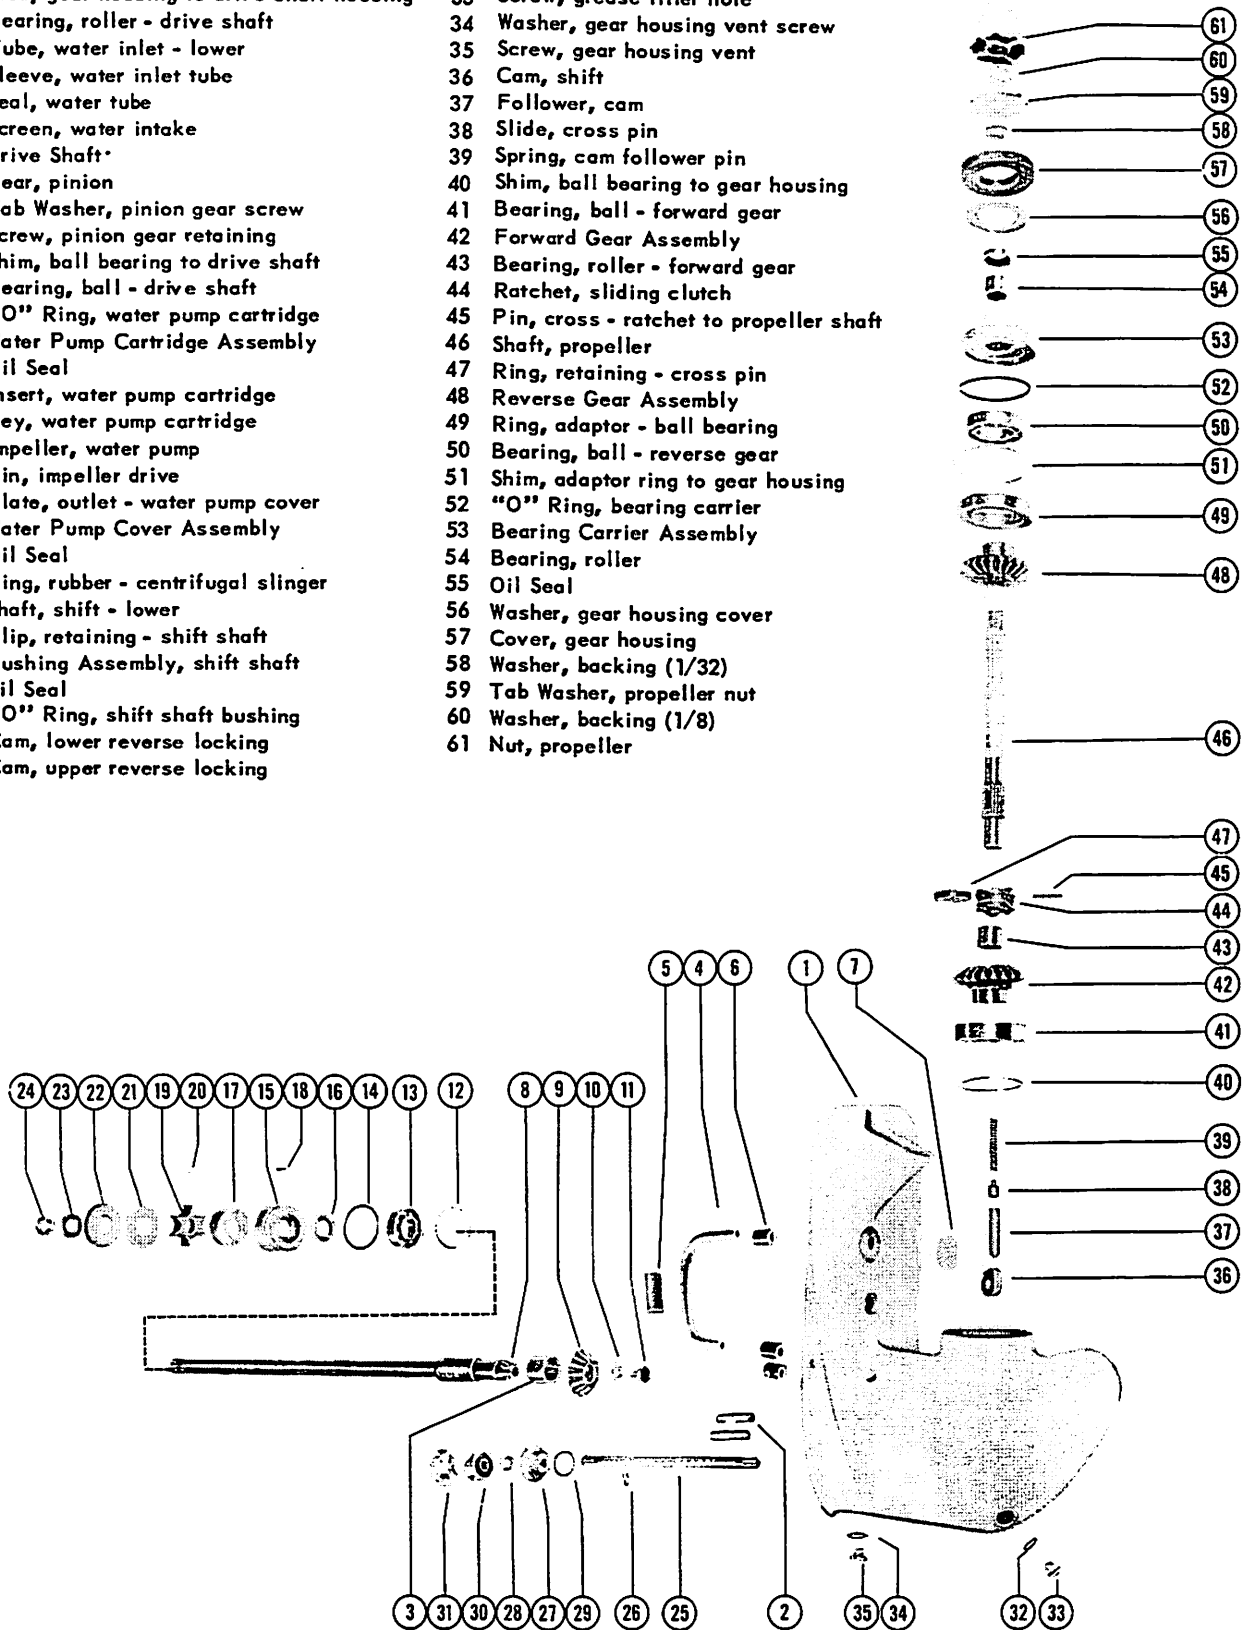

Figure 13. Gear Housing Assembly, Mark 58
Check that water intake screen (item 7 in Figure 13) is secure. Tighten prong or replace screen if required.